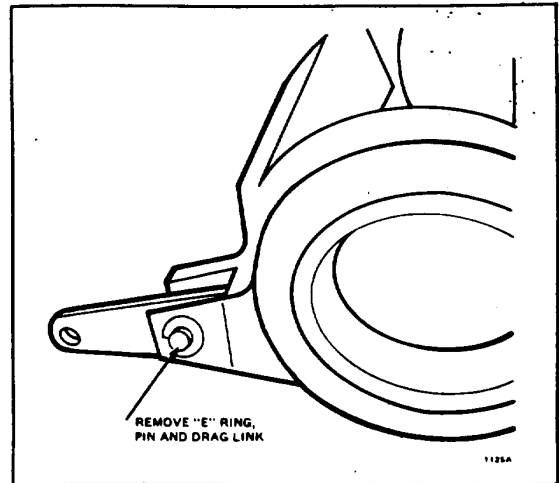

FIGURE 4. Pin connection to swashplate. Shown disassembled for clarity.
4. Remove the E-ring from the inside end of the connecting pin. Use caution not to drop the E-ring into the housing during the removal. See Figure 4.